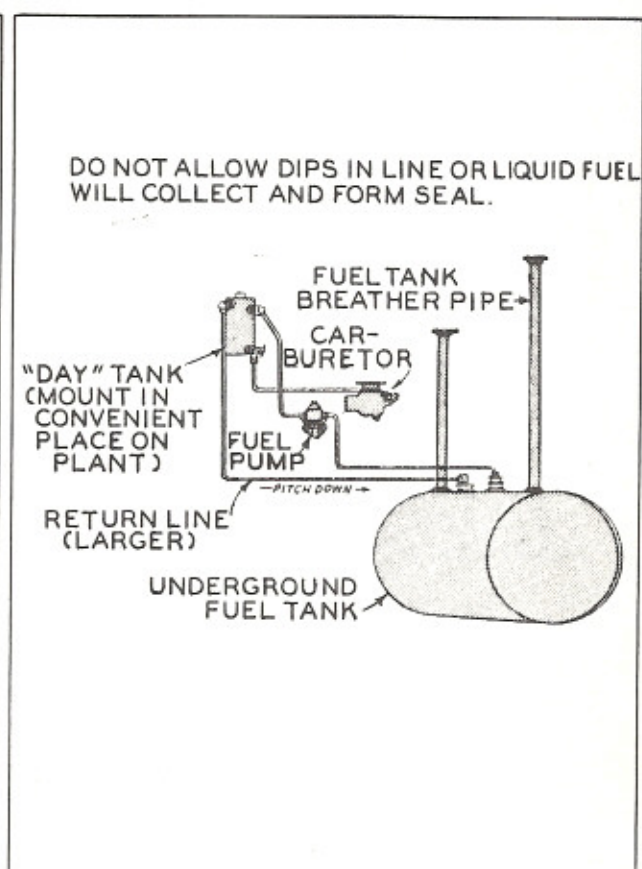

Figure 17 - Day Tank
**DAY TANK.** - Installations which demand quick, dependable starting through automatic controls must have a means of keeping the fuel system primed. A day tank mounted on or near the unit provides a small supply of fuel for immediate use by the engine. Refer to Figure 17.